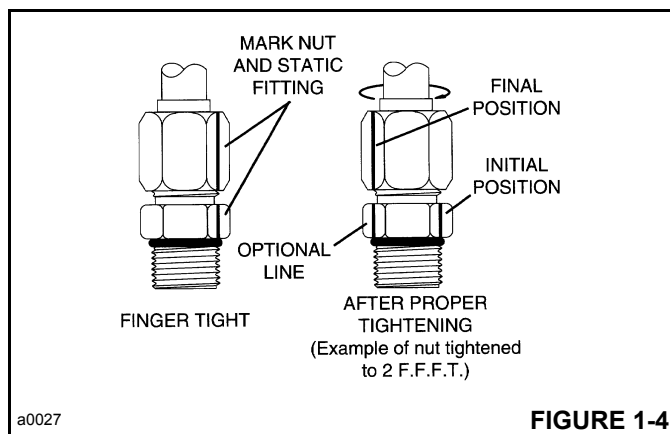

FIGURE 1-4
6. Optionally for future tightening of the same connection: extend the line from the nut at its new location onto the hex of the static fitting or port (Figure 1-4).